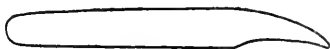
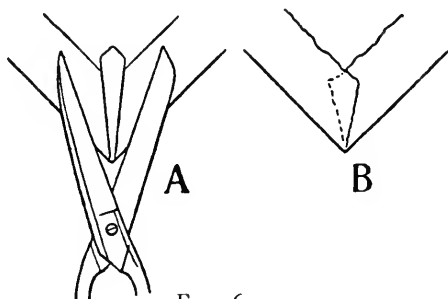

FIG. 64.
FIG. 65.
on the two boards in the same way as described for the fore-edge, and the edge rubbed square with a folder. At fig. 64 is shown a convenient form of folder for covering. At the corners the leather must be pulled over as far as possible with two folders meeting at the extreme point, the object being to avoid a cut in the leather at the corner of the board. The folds so formed must be cut off with the scissors (see fig. 65, A), then one edge tucked neatly under the other, (B). Care must be taken throughout not to soil the edges of the leaves.